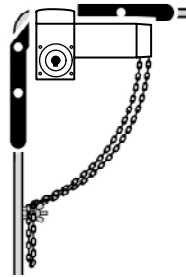

Figure 10
- The chain should hang freely, should not be stretched (fig. 10).